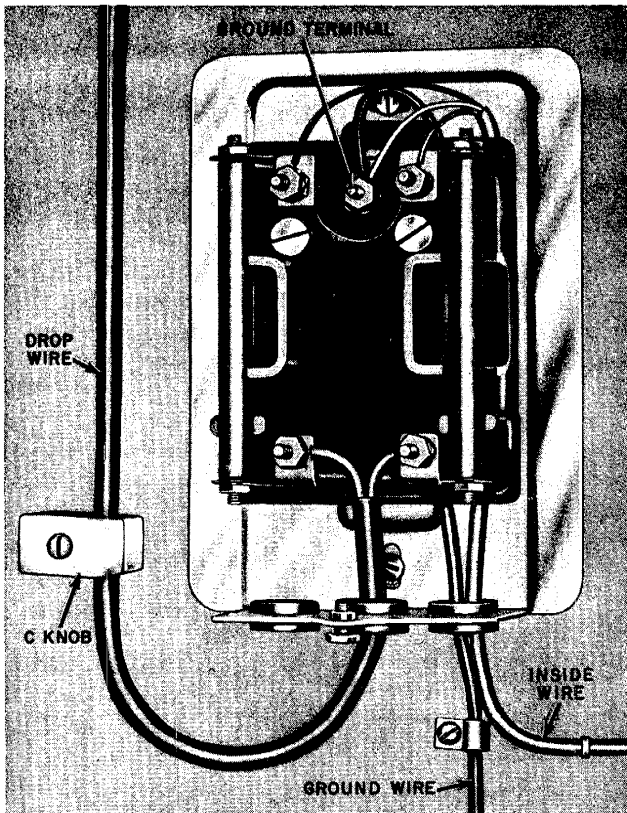

Fig. 15—1293C Protector
5.02 The 93C Protector Mounting is used to house the 98- or 106-type protector at outdoor installations. Two screws are furnished with the protector mounting for fastening the protector to the back of the mounting. Two holes are provided in the back for attaching the protector mounting to its mounting surface. Fig. 15 illustrates a fused protector installed in a 93C Protector Mounting. The protector is coded 1293C Protector.